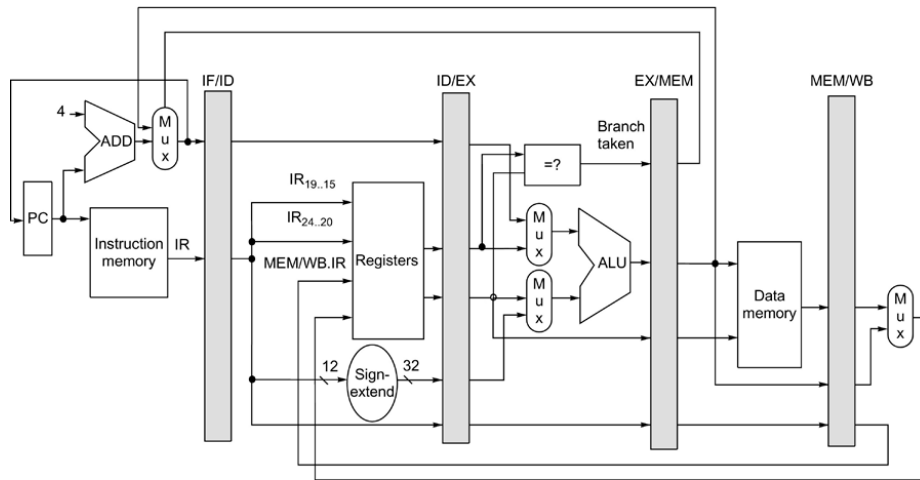
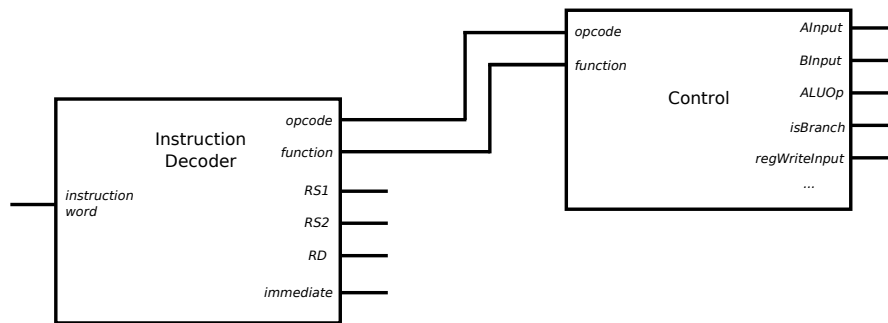

Figure 1: Possible data path for a simple RISC-V processor, which can be adapted to OpenRISC.
Figure 3: Interconnection between instruction decoder and control signals component.
Consider the data path in Figure 1 as discussed by Hennessy and Patterson. You will find several of these components in the C++ skeleton that is provided to you, such as the register file, pipeline registers and instruction and data memories. Not all of the components have been fully implemented. Because we will start with a non-pipelined design that is later extended to a pipelined design, we will use the pipeline registers in all cases. The data path consists of 5 stages. Each clock cycle, one of the stages is executed. This execution is done in two steps: propagate and clock pulse. During the propagate step the (source) pipeline register may be read and inputs of the different components are set. In fact, the inputs from the pipeline register propagate through the various components. In the clock pulse step the destination pipeline register is written. Also in components that contain state (such as the register file) a write is carried out.
trigger the actual write to the register file. Compare this with the lines drawn in the data path of Figure 1!
As can be seen in the data path there are several multiplexers (mux) and other components that need to be controlled. The multiplexers need to be told which of the inputs to relay to the output. The ALU needs an input that indicates the operation to be carried out. These are not data inputs (contrary to instruction word, register numbers, ALU output), but rather control inputs. So, next to the data path we need control signals, sometimes referred to as the control of the processor. Note that in Figure 1 the control lines are *not* shown. How to determine the correct values of the different control signals? Well, this is all encoded into the instruction. When decoding the instruction, we need to determine the control signals such that exactly this instruction is being executed. In case of OpenRISC, we can determine the control signals from the combination of opcode and function codes.
To implement the control signals, we suggest to implement a `ControlSignals` class. This will form a separate component. The instruction decode stage should set the opcode and function code as inputs on this component. After that, the control signals can be obtained using various getters. For example, you would want getters for determining the ALU operation (which is to be set as input on the ALU in EX), setting the selectors on the multiplexers in front of the A and B inputs of the ALU, and so on. You also want to pass the instance of the `ControlSignals` class to later stages through the pipeline registers. Figure 3 depicts the interplay between the initial instruction decoder and the control signals component.
- **ID** In the instruction decode stage, we are going to decode the instruction word that was placed in the pipeline register. As a first step, the instruction word needs to be set on the decoder using the appropriate method. Secondly, we can configure the register file in `propagate`, to be able to fetch the register values in `clockPulse` (second half of the clock cycle). To do so, we will call the different methods of the decoder from this instruction decode stage. To fetch register values we need to call the `getA` method to get the register number. This number is set on the register file component, see Figure 1. Additionally, control signals need to be determined to drive the ALU and multiplexers in later stages. We suggest that you create a control signals class, as described earlier. On this class, opcode and function code need to be set, as obtained from the instruction decoder. The control signals class should have several getter-methods that indicate how the different components of the data path must be configured. See Figure 3 for an example.
- **EX** After an instruction has been decoded, it can be executed. Most instructions need to perform an ALU operation. In order to do so, the control signals A, B and op (refer to Figure 1) need to be set. ALU operations are implemented in `alu.cc` and `alu.h`. Methods are present in the ALU class to configure the operands and to read the result. Left to be added are ALU operations to be performed. Use the `ALUOp` enum. Your control signals class needs a method to translate opcode and function code to the corresponding `ALUOp`. So, within the execute stage you will obtain the `ALUOp` from the control signals class and set this value on the ALU. All values must be set on the ALU during the propagate stage. In the clock pulse stage, one calls the method `getResult` to obtain the result and write this result to the pipeline register to be used in the next stage.